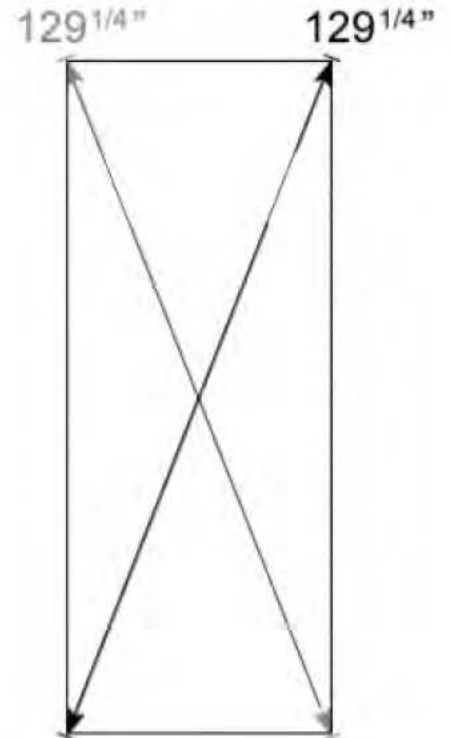

Figure 4
Step 5. Square the deck frame by measuring across the diagonals. Adjust to square if necessary, floor is square when measurements are the same – 129 1/4". Figure 4. Increasing the height of the deck may be accomplished by several means. You may try cement blocks, gravel or wood shims.